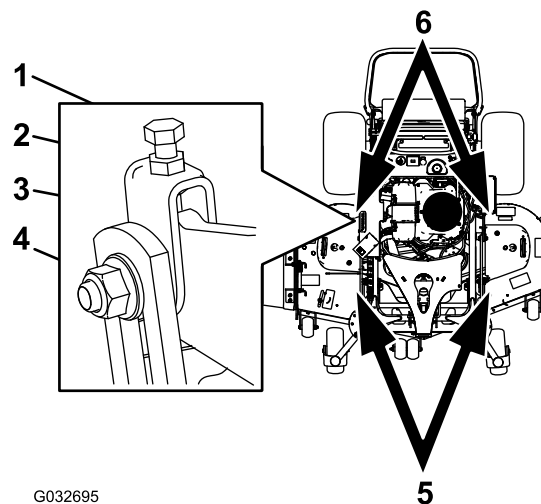

Figure 94
1. Loosen the jam nut and side bolt in the yokes that you want to adjust (Figure 94).
2. Rotate the top bolt of the yokes to adjust the height of the mower deck (Figure 94).
5. If the measurement is not correct, locate the front 2 yokes on the machine (Figure 94).